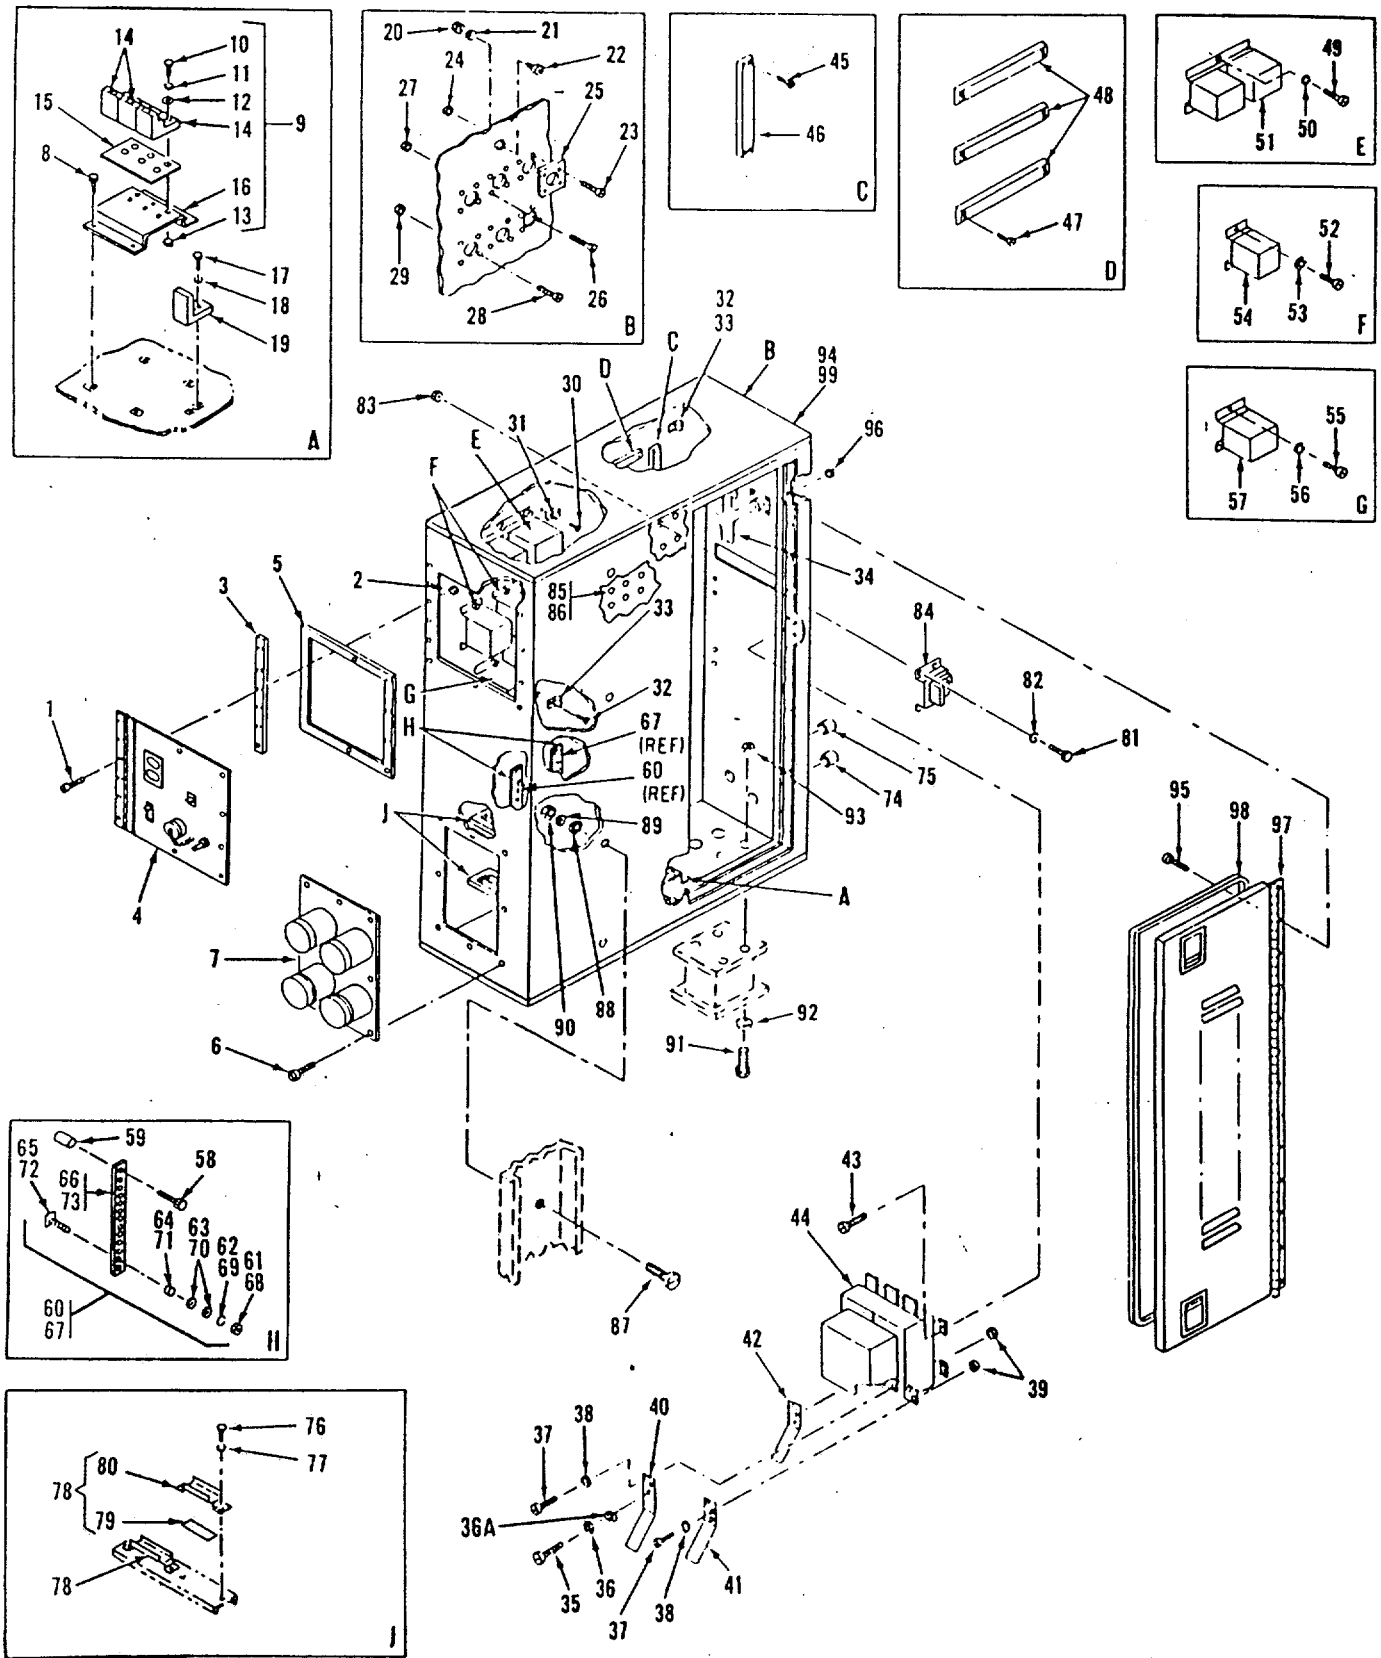

Figure 3-1. External Power Box Assembly, Exploded View
a. Removal. Refer to Operator/Crew and Organizational Maintenance manual for removal of preheat system contactor K107 (54, figure 3-1) and heater contactor K109 (54, figure 3-1).
b. Repair. (See figure 3-2.) Repair preheat system contactor K107 (54, figure 3-1) by replacing contacts, armature, and coil, as follows:
a. Removal. Refer to Operator/Crew and Organizational Maintenance manual for removal of preheat system transfer contactor K108 (51, figure 3-1).
b. Repair. (See figure 3-3.) Repair transfer contactor K108 (51, figure 3-1) by replacing contacts, armature and coil in each contactor, as follows:
a. Removal. Refer to Operator/Crew and Organizational Maintenance manual for removal of motor contactor (57, figure 3-1).
LEGEND FOR FIGURE 3-1
- (6) Set switch to off.
- (7) Remove and reconnect jumper across L1 and L3.
- (8) Remove and reconnect load to X2 and T3 terminals.
- (9) Set switch to on. Ammeter should read approximately 8.3 amps.
- (10) Slowly increase load to 4260 watts. Ammeter should read 35.5 amps and relay should trip between 4260 watts (35.5 amps) to 4584 watts (38.2 amps)
- (11) Set switch to off and reset overload handle.
- (12) Adjust variable load to zero load.
- (13) Set switch to on.
- (14) Adjust variable load for 1000 watt load. Ammeter should read 8.3 amps.
- (15) If ammeter readings are erratic, contacts are worn or badly pitted and should be replaced. If there is no reading, armature, coil, or contacts may be defective and should be replaced. If overload relay does not trip at specified load, replace overload assembly.
c. Repair. (See figure 3-4.) Repair motor contactor K120 (57, figure 3-1) by replacing contacts, armature, overload assembly, and coil, as follows: